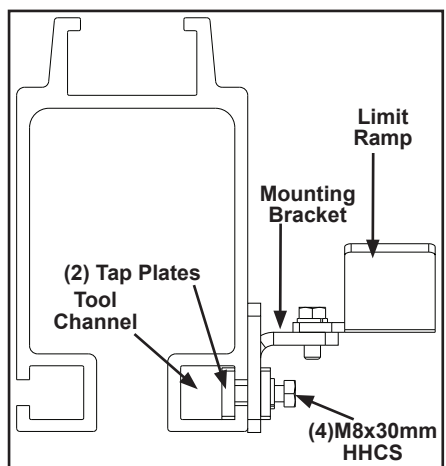

Figure 3-130
- Step 1. Loosen four (4) M8 x 30mm HHCS mounting bracket bolts and slide ramp tap plates and mounting bracket on side of tool channel. Position per system layout. Do not tighten ramp to rail, adjustments will be made in later steps. See Figure 3-130 and 3-131.